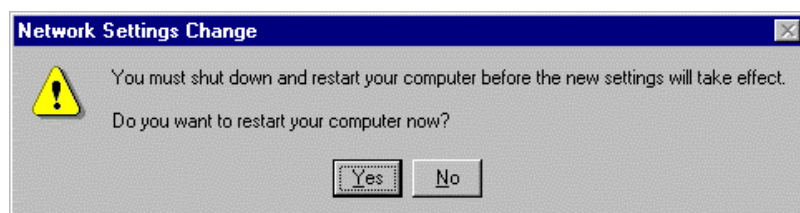

Fig. 8-20
- You are then prompted to restart your computer (Fig. 8-20).